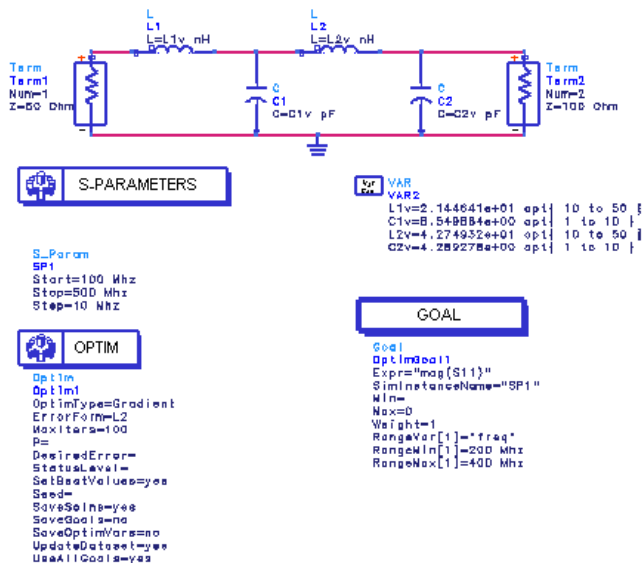

Figure 2-8. Schematic Showing Optimized Parameter Values
6. The next step is to select *Simulate > Update Optimization Values* to see the values that the Gradient optimizer has arrived at, as shown in Figure 2-8.
7. Although the design shown in Figure 2-8 is not optimal, it does provide a good starting point for further optimization. An optimal response would have equal values of return loss at the band edges and at the band center (an *equal-ripple* response). The *Minimax* optimizer, using a method described in the section “Error Function Formulation” on page 6-8 in Chapter 5, Summary of Optimizers is designed to achieve such a response.